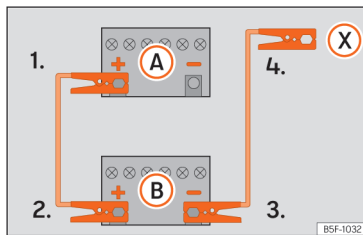

Fig. 153 Diagram of connections for vehicles without Start Stop system
4. *Vehicles without a Start-Stop system:* connect one end of the black jump lead to the negative terminal **-** of the vehicle providing the current **B** »» Fig. 153.